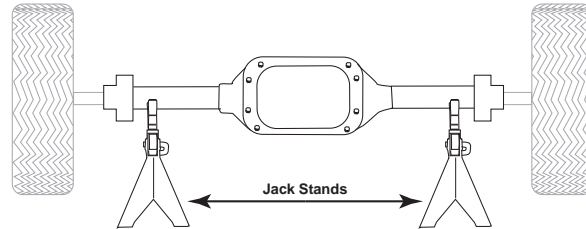

fig. 2
1. Raise the vehicle and support the axle with jack stands, setting the jack stands as wide as possible on the axle (Fig. 2)